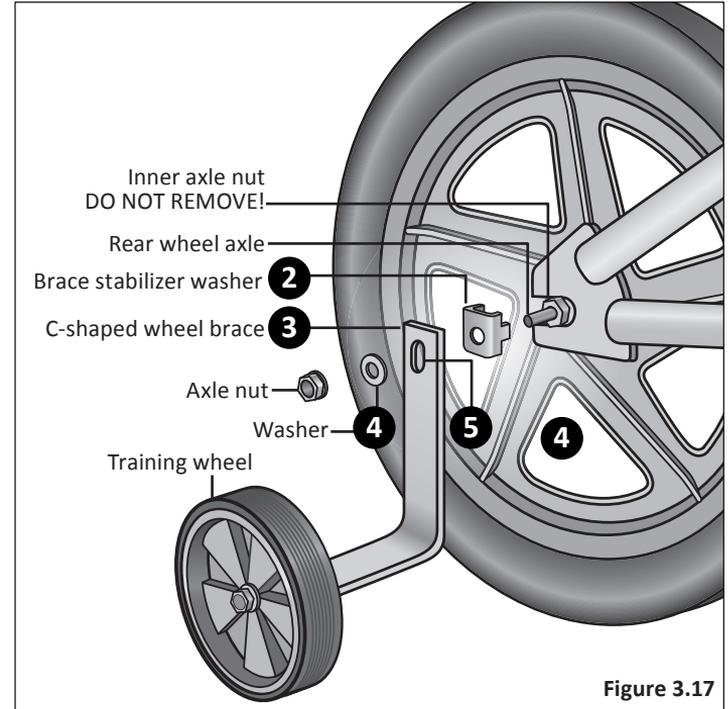

Figure 3.17
- 1 Remove the outer axle nut and washer from the rear wheel axle. **Figure 3.17**